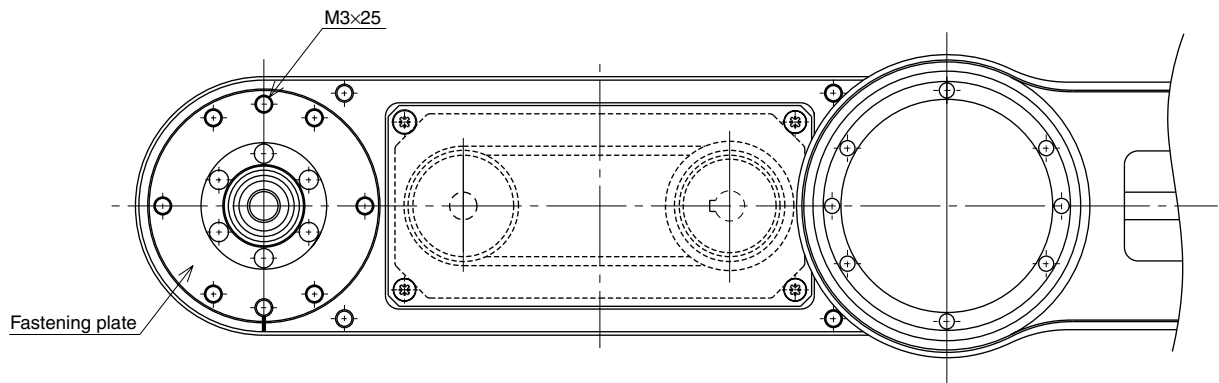
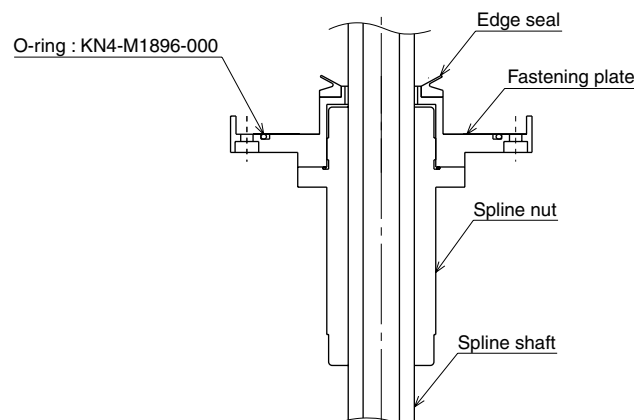

Fig. 5-30
Fig. 5-34
(See Fig. 5-30.)
- 20) Fit a new O-ring into the O-ring groove on the fastening plate and also replace the edge seal with new one. Then secure the fastening plate to the harmonic drive with the bolts (M3×25L, 8 pieces) you removed earlier. (See Fig. 5-30 and Fig. 5-34.)